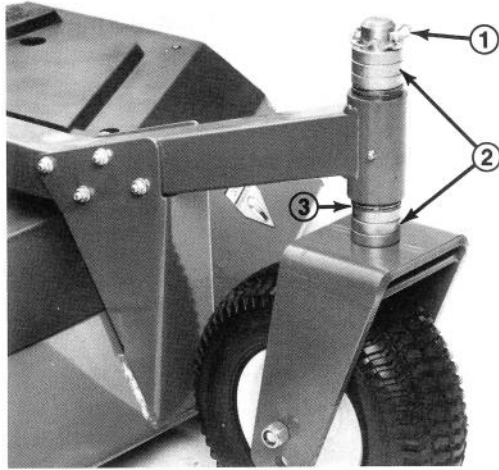

Figure 9
4. On all remaining castor wheel assemblies, remove lynch pin from castor fork shafts (Fig. 9). Remove castor fork shaft and spacer assembly from the castor arm (Fig. 9). Place spacers onto castor spindle to desired height—of—cut setting and install castor fork shaft in arm (Fig. 9). Install remaining spacers onto shaft and secure assemblies with the lynch pin (Fig. 9).